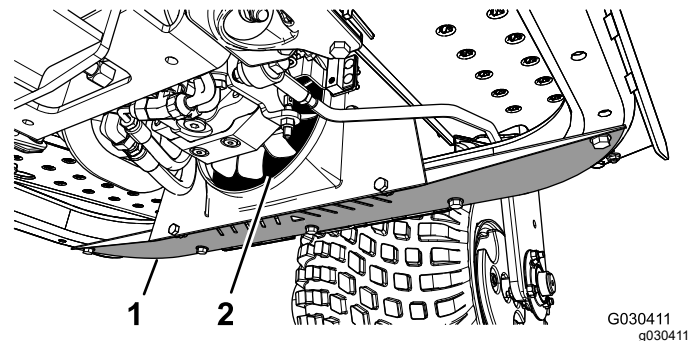

Figure 44
1. Remove the lower shield (Figure 44).
2. Using a wand, blow compressed air in between the fan blades (Figure 44) to force material out from the direction that it entered.